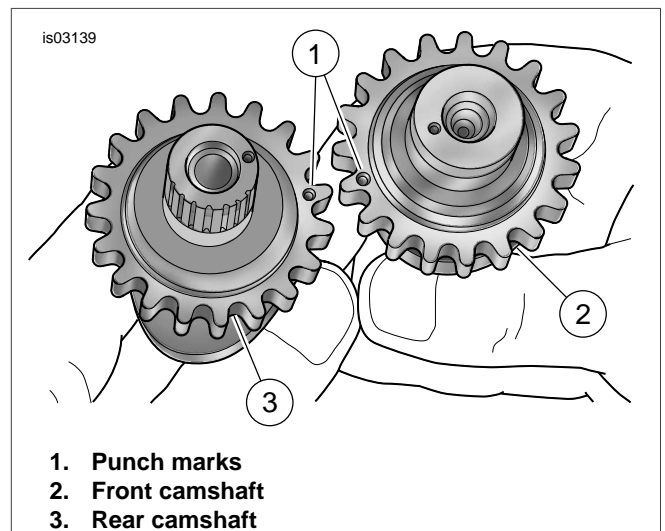

Figure 6. Align Punch Marks on Teeth of Camshaft Sprockets
3. See Figure 6. Align punch marks on teeth of secondary cam sprockets (outboard faces). Using a colored marker, carefully mark the punch mark locations on the inboard side of the sprocket teeth. These marks are needed to observe proper orientation of the camshafts when they are pressed into the bearings.